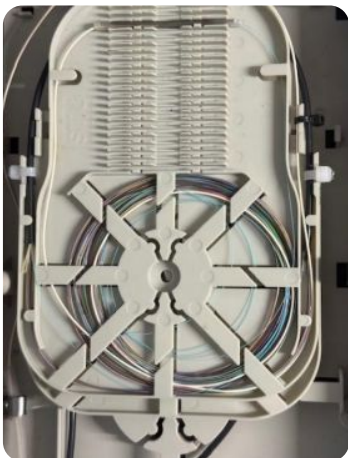

Fig. 8m
- Splice fiber selected to 900-micron pigtail as shown in Fig. 8m.